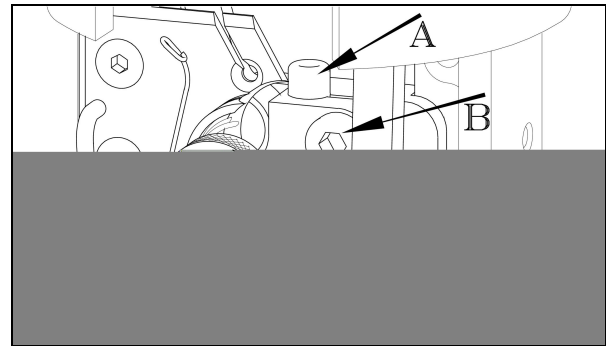

Fig 1
- g. Adjust screw (E) until the distances at points (F) and (H) are approximately the same.
- h. Install spreader spindle (A) in Fig 1. Push the spreader spindle upwards until it is approximately 2mm above the spreader crosshead (C) and tighten screw (B). Install a new needle in the needle bar.
- i. Turn the machine through the sewing cycle, observing the distance between the left spreader and needle. It should be approximately 0.5mm. Loosen screw (B) and raise or lower the spreader spindle (A) in Fig 1 to adjust for the distance. When completed, tighten screw (B).